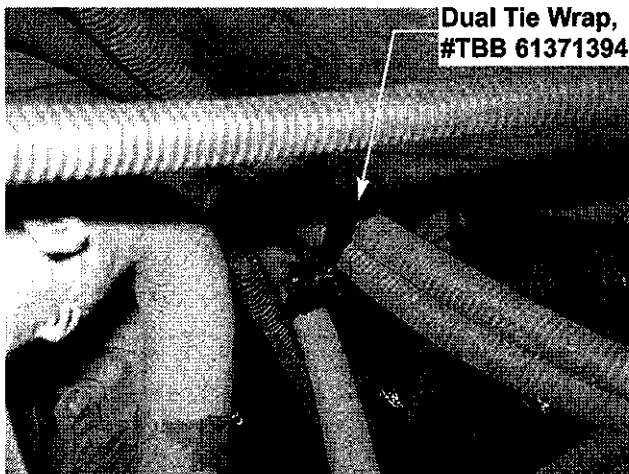

Figure 2
8. If no damaged to the copper strands is found, install Dual Tie Wrap, #TBB 61371394 to secure cable and fuel line. **MAKE SURE THEY DO NOT TOUCH. Figure 2**